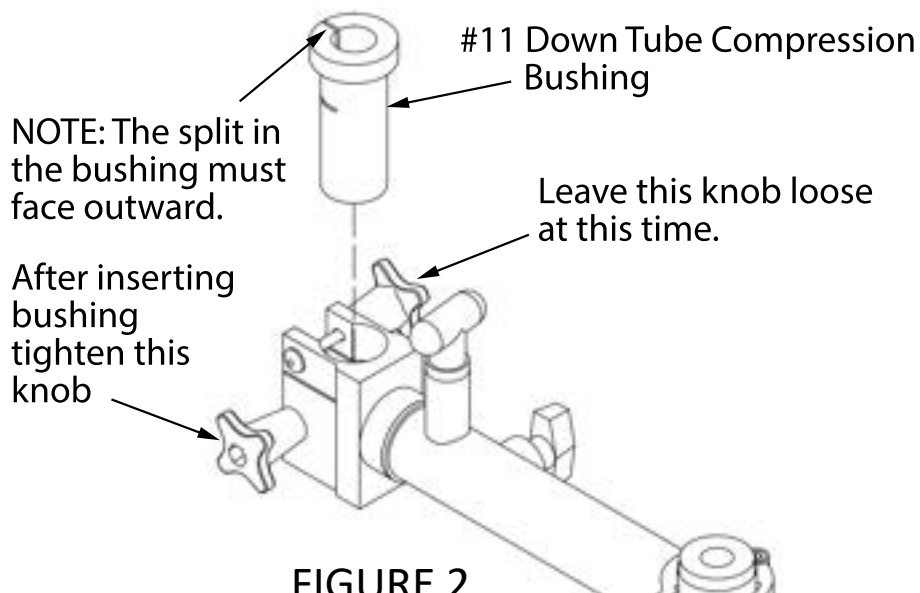

FIGURE 2
STEP 2. Install the # 11 Bushing as seen in Figure 2.